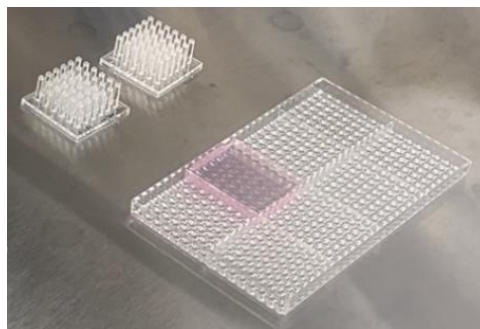

Figure 2. Dispensing 2.5 - 3 mL of the cell-alginate mixture per block in the LoadingPlate for rapid loading of the cells on the pillar plate.
- Place the LoadingPlate on a flat surface, dispense 2.5 - 3 mL of the cell-alginate mixture per small block, and spread it properly with the pipette tip (**Fig. 2**).